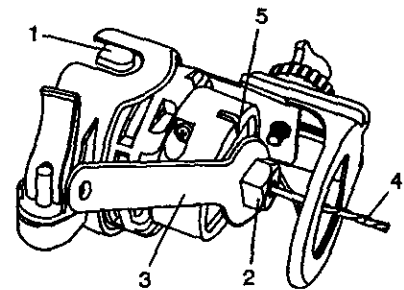

Fig. 2
1. Depress the shaft locking button (1) and rotate the collet lock nut (2) clockwise with the other hand until the locking button drops into place, preventing the shaft from turning (see Fig. 2).
2. While continuing to hold the shaft locking button IN, use the collet wrench (3) to turn the collet nut counter clockwise. Loosen the collet nut two or three turns.
The motor unit has two built-in work lights (5) (see Fig. 2). These work lights automatically light up when the motor switch is turned ON. Patterns or drawings in the immediate vicinity of the bit will be illuminated for better visibility and improved cutting accuracy.
3. Install cutting bit in the collet as shown in Fig. 2.